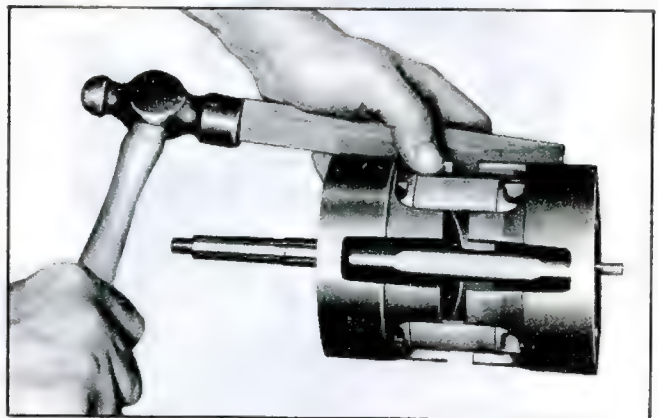

Fig. 48—Separating Cylinder Halves
3. Drive the cylinder halves apart and free from the dowel pins and discharge crossover tube using a fiber block and mallet (fig. 48). Discard the discharge crossover tube.